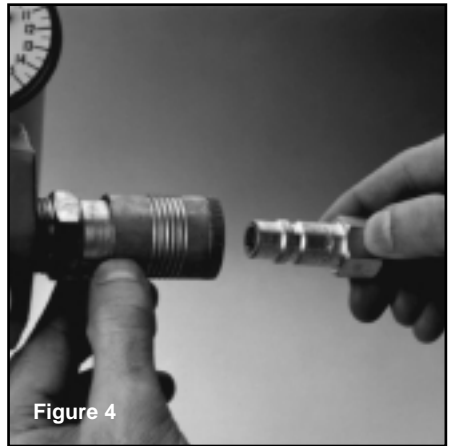

Figure 4
6. Connect the respirator's MSHA/NIOSH approved air supply hose(s) to the quick-disconnect outlet coupler(s) on the pump (see Figure 4).